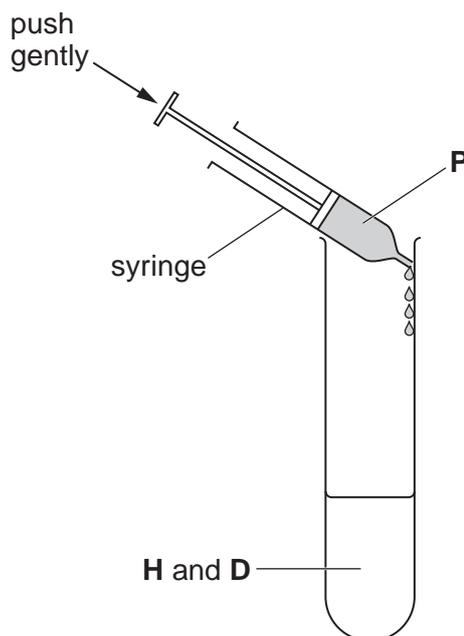

Fig. 1.4
6. As shown in Fig. 1.4, put 1 cm3 of **P** into the same test-tube and stir as before. Immediately start timing.